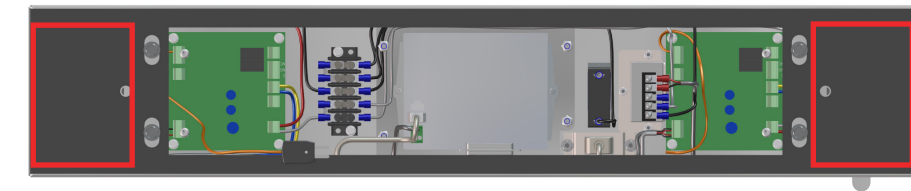

Fig. 155: Cut Out Rectangular Sections from Gasket
5. To access the cam lock and its new location, peel back the gasket cover in the location shown by the red rectangles (Fig. 155).